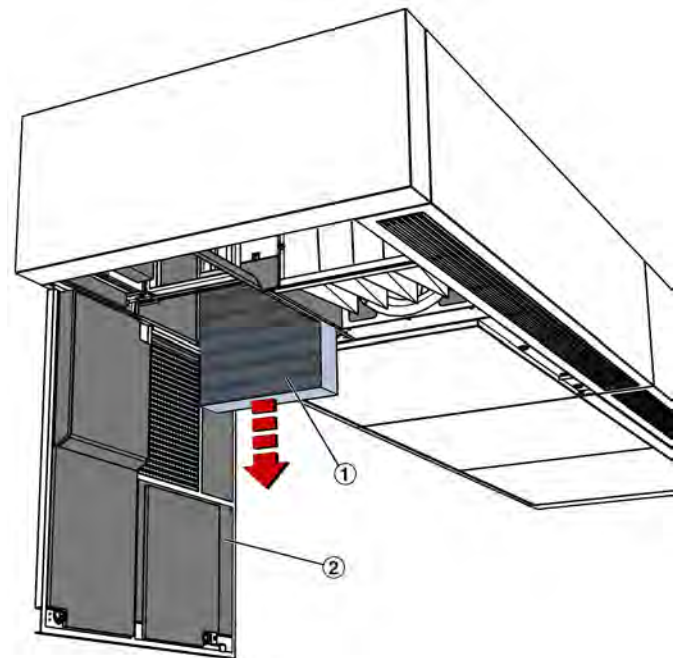

Fig. 86: Extract air filter
2. ▶ Open the inspection access panel (Fig. 86 /2) of the ventilation unit ↪ 8.1.2.1 'Opening/closing the inspection access panel' on page 54 .
7. ▶ Pull the extract air filter (Fig. 86 /1) down and out.